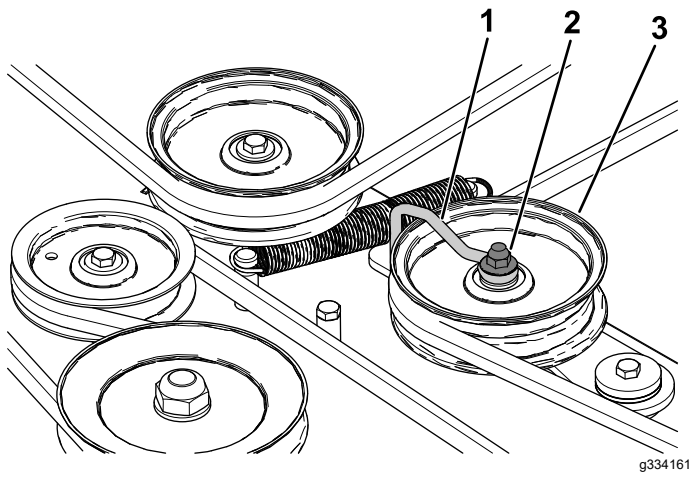

Figure 54
5. Loosen the nut securing the wire form to the idler pulley (Figure 54).
- Tighten the nut securing the wire form to the idler pulley (Figure 54).
- Note:** Position the wireform against the idler arm as shown in Figure 54.